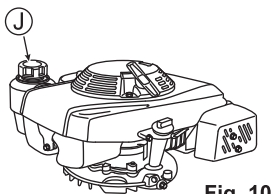

Fig. 10
1. Open the fuel tank cap (J) and refuel gasoline. Immediately wipe off with a rag if gasoline is spilt. (See Fig. 10)
2. Firmly close the fuel tank cap (J) after refueling.